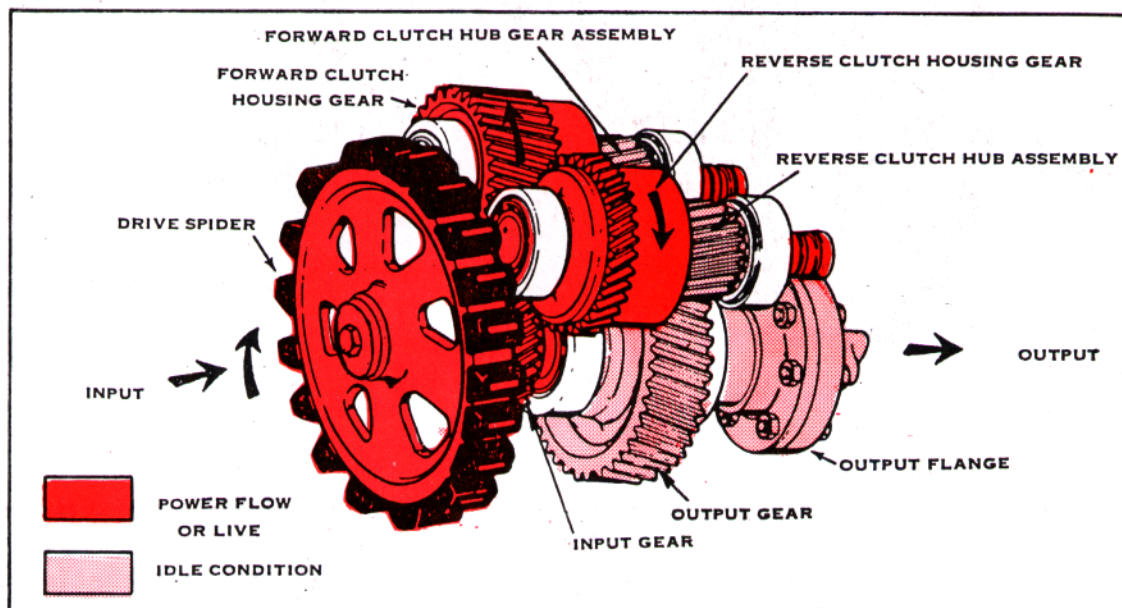

Figure 3-1. MG 506 A Marine Transmission Power Flow - Neutral - Schematic view.
1. Neutral. See Figure 3-1. When in neutral, all parts that rotate in the marine transmission while in this position, turn at engine speed. The connecting member between the engine and the marine transmission is the driving ring that is bolted to the engine flywheel. The rubber blocks that are installed on the drive spider are meshed in the driving ring. The drive spider is keyed to the input shaft the input gear being in one piece with the input shaft. Therefore, the input gear turns at engine speed and in engine direction. The input gear is in constant mesh with the forward clutch housing gear, and turns the gear, the clutch shaft, and the sintered metal clutch plates at engine speed and in anti-engine direction. The forward clutch housing gear is in constant mesh with the reverse clutch housing gear, and the gear, the clutch shaft, and the sintered metal clutch plates rotate at engine speed and in engine direction. The oil pump assembly which is connected to the end of the reverse clutch shaft, also rotates at engine speed and in engine direction. Since neither forward nor reverse clutch is engaged, there is no further power flow within the gear.